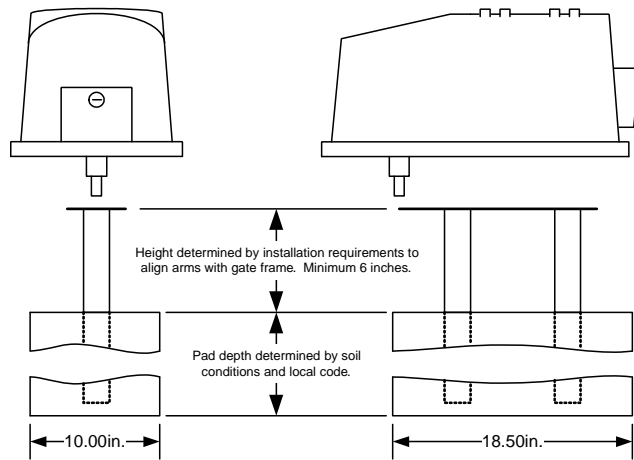

Figure 3
4. Once the location of the mounting plate/post assembly has been determined, construct a form for the concrete pad according to Figure 3 and place the assembly into the form. Note that the depth of the pad is determined by soil conditions and local building codes.
3. Once the location of the operator pad mount assembly has been determined, construct a form for the concrete pad according to Figure 3. Note that the depth of the pad is determined by soil conditions and local building codes.